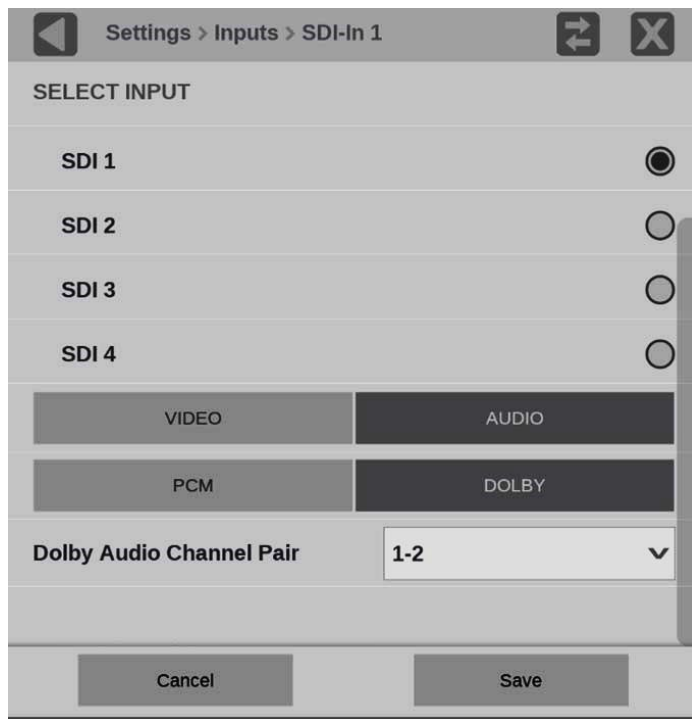

Figure 33: Audio signal settings
1. Select **AUDIO**. (See Figure 33.)